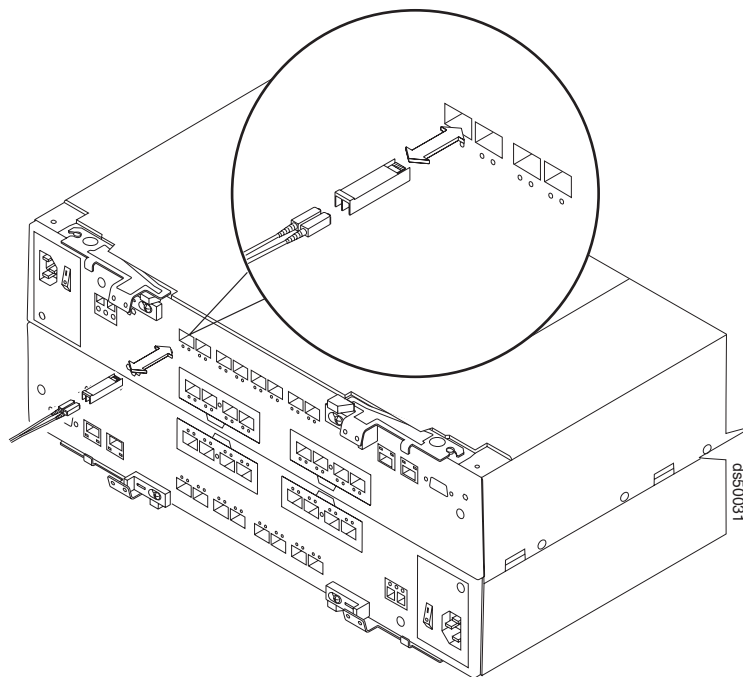

Figure 125. Replacing a SFP module
6. Disconnect the interface cable from the SFP module. (Figure 125 shows the SFP module, interface cable, and the rear of a controller.)